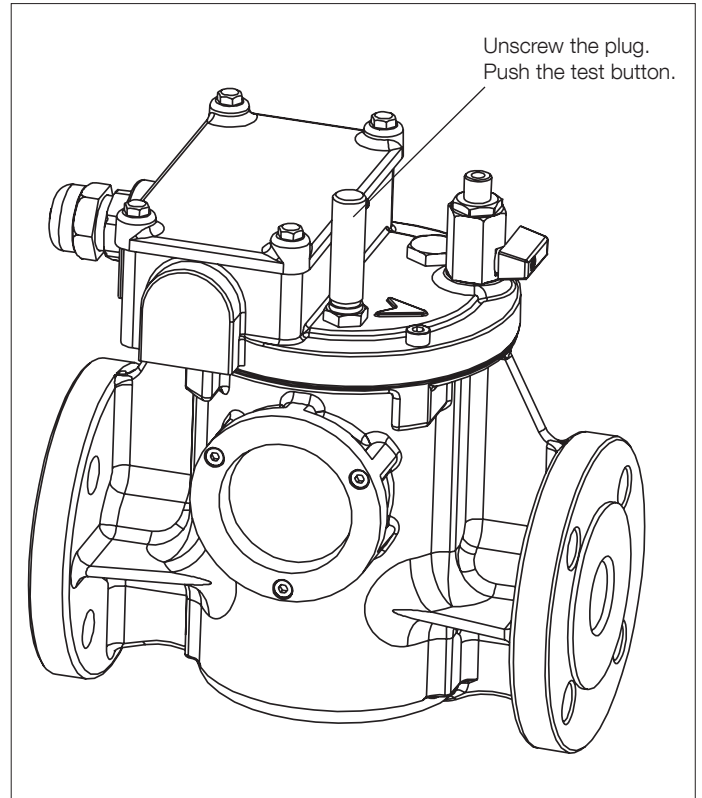

Fig. 18. Test button.
2. Unscrew the plug for the test button. See Fig. 18.